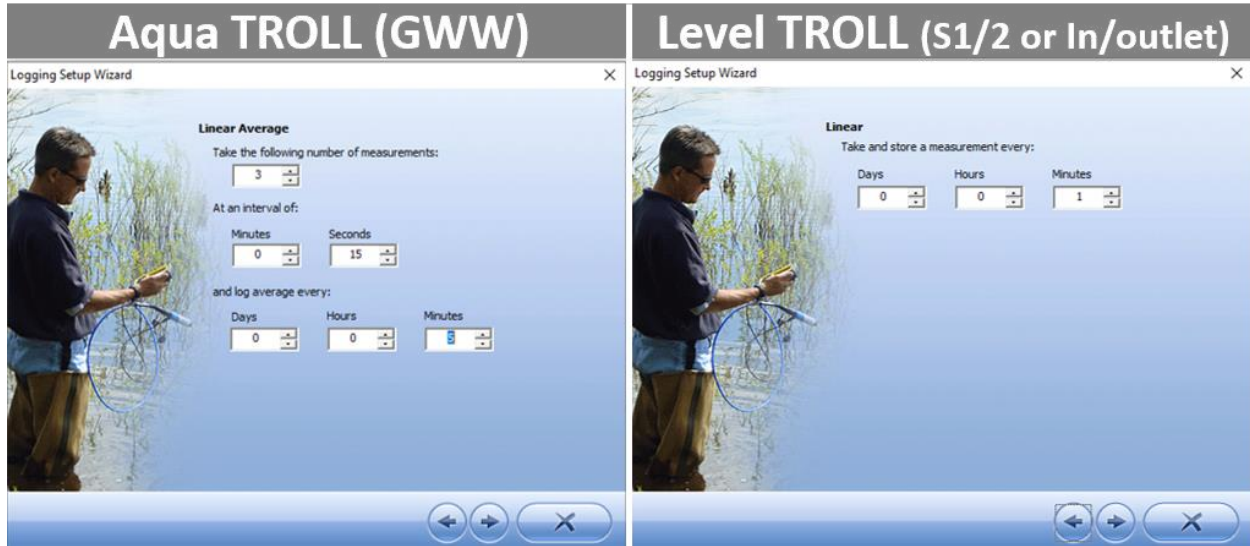

Figure 15. Set the Number of Measurements for each respective TROLL
7. Set up the number of measurements for the Aqua TROLL or Level TROLL (**Figure 15**).